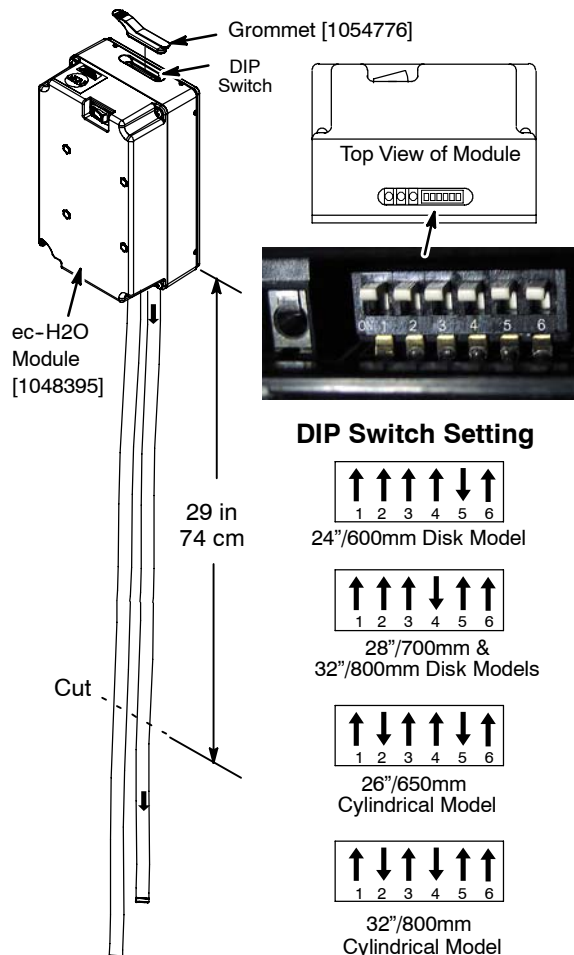

Fig. 14
- Cut the two *ec-H2O* module hoses to the specified length and set the DIP switch settings as shown (Figure 14). Install the DIP switch grommet [p/n 1054776].